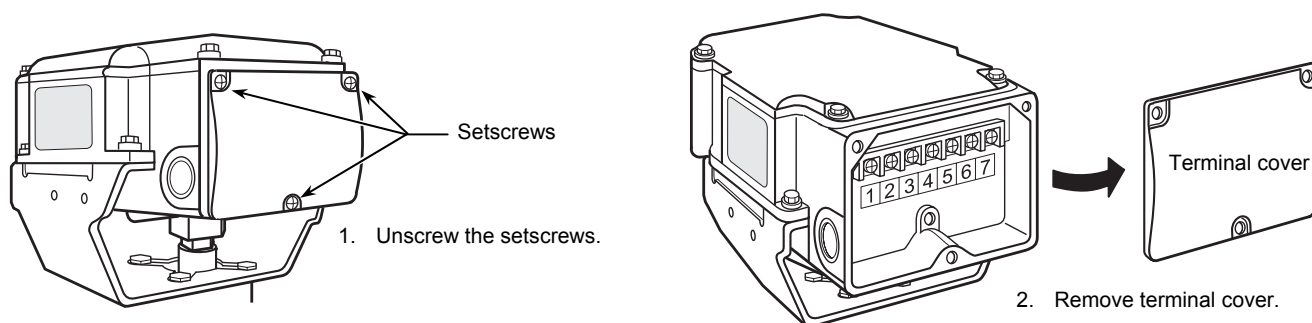

Figure 15. Terminal cover removal
- 2) Unscrew the 3 setscrews (M4 × 10) of the terminal cover and remove the terminal cover, as shown in Fig. 15.